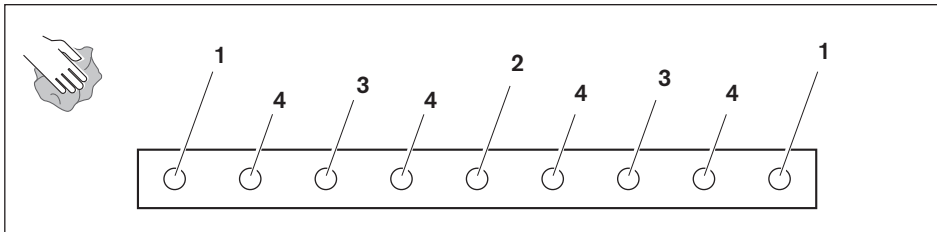

Fig. 5: Mounting the IMS Guide Rails
- ▶ Mount the IMS Guide Rails as shown in Fig. 5.